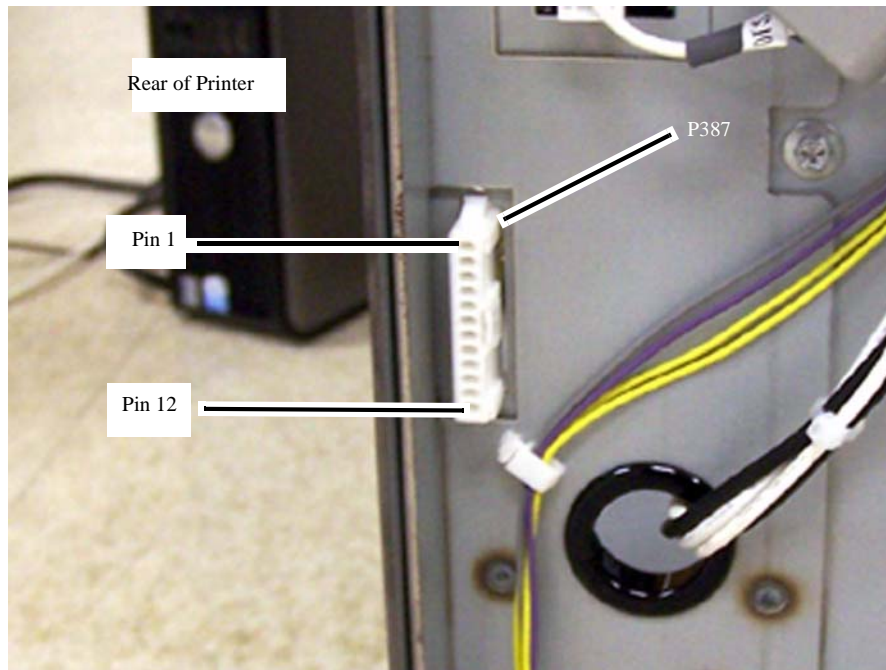

Figure 1 P387 pin out
3. Connect the negative lead of a multimeter to pin 12 of P387 (Figure 1).